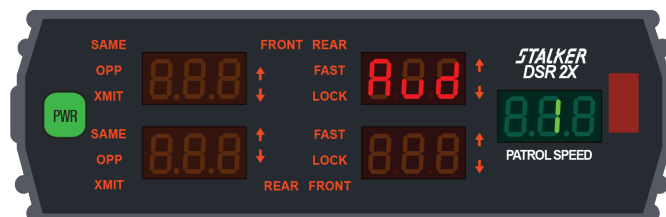

Figure 19
The Rear Traffic Alert Speed Selection mode for the 2X is entered by pressing the remote control **MENU** key 6 times. The $\uparrow$ and $\downarrow$ keys are then used to set the closing speed above which the Rear Traffic Alert will sound. Figure 19 shows a closing speed of 30 MPH, the factory default. Press any of the four Target Zone keys to exit the Menu.